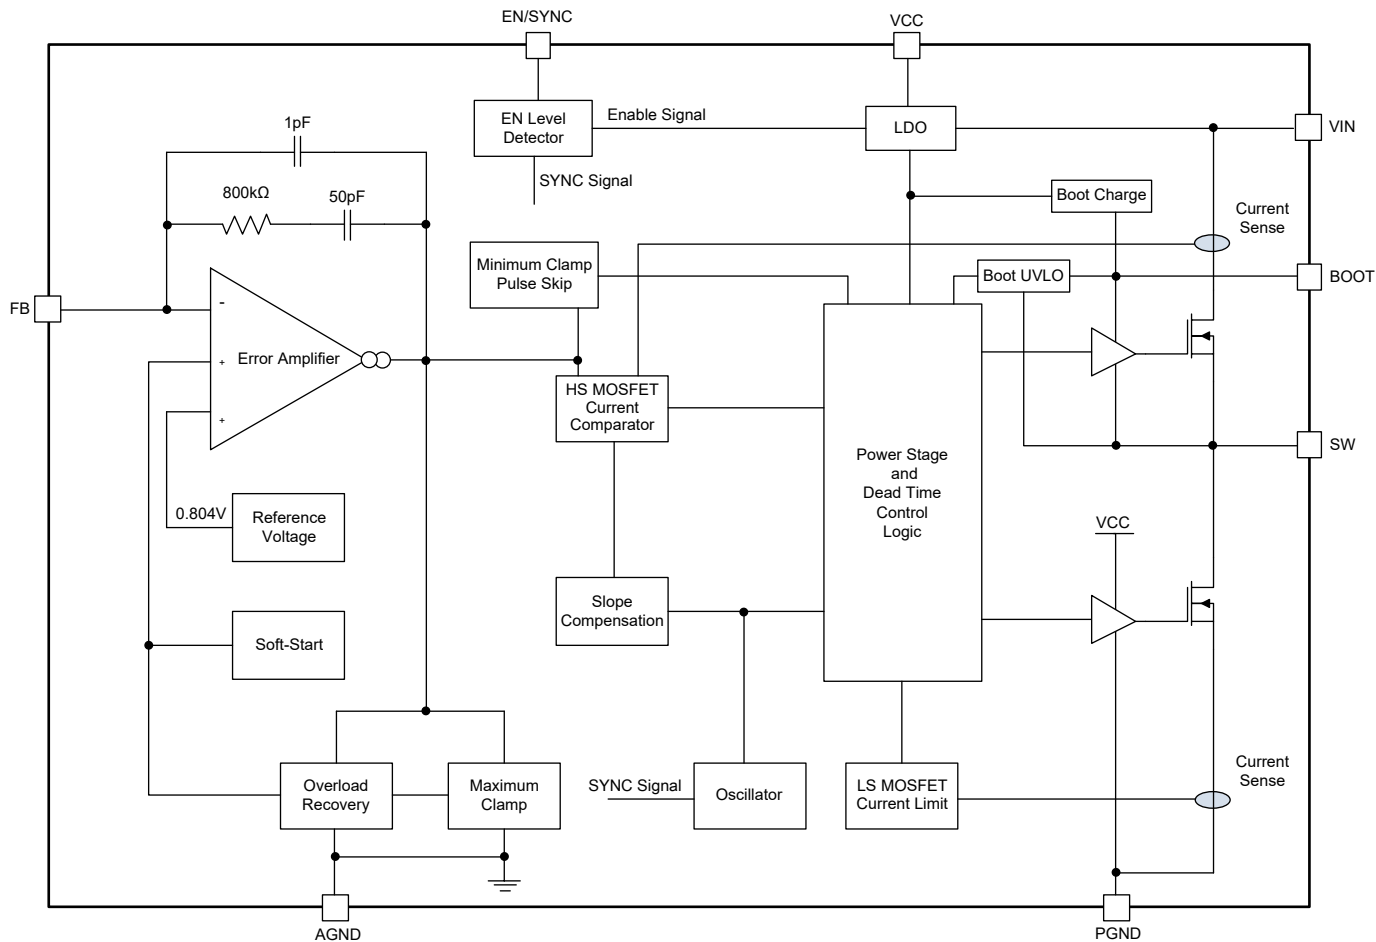
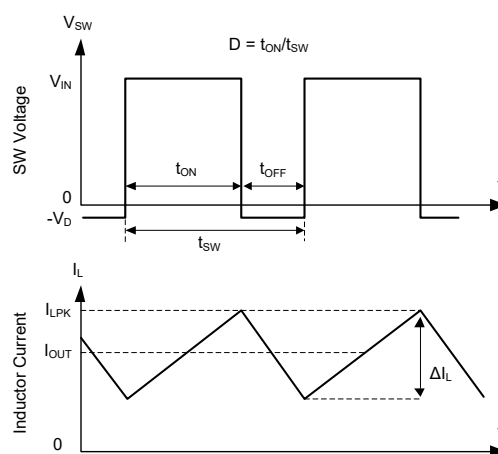
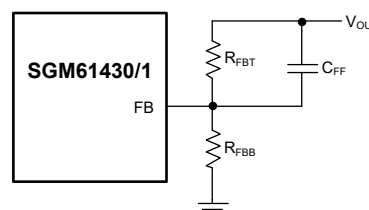

Figure 2. Block Diagram
Figure 3. Converter Switching Waveforms in CCM
Figure 8. Improving Loop Compensation by Feed-Forward Capacitor
The Functional Block Diagram and basic waveforms of these Buck synchronous converters are shown in Figure 2 and Figure 3. The N-MOSFETs are used for high-side (HS) and low-side (LS) (synchronous rectifier) switches. The HS duty cycle ($D = t_{ON}/t_{SW}$) is controlled in closed loop to regulate and maintain the output voltage at a constant level. The switching period is $t_{SW} = 1/f_{SW}$, and the HS on-time is t_{ON} . When HS is turned on, the SW node voltage sharply rises towards V_{IN} , and the inductor current (I_L) starts ramping up with $(V_{IN} - V_{OUT})/L$ slope. When HS is turned off, the LS is turned on after a very short dead time to avoid shoot-through, and I_L ramps down with $-V_{OUT}/L$ slope. When the inductor current is continuous (either due to sufficient load or FPWM), the output voltage is proportional to the input voltage and duty cycle ($V_{OUT} = D \times V_{IN}$) if component parasitics are ignored.
The SGM61430 and SGM61431 are internally compensated (see Figure 2) and are stable over the entire f_{SW} and V_{OUT} operating range. However, the phase margin can be low for some ranges of V_{OUT} when low ESR ceramic capacitors are used in the output. In such cases, it is recommended to use a feed-forward capacitor (C_{FF}) in parallel with the R_{FBB} to improve the transient response as shown in Figure 8.
The HS switch over-current protection is natural in peak current mode control. In each cycle the HS current sensing starts a short time (blanking time) after it is turned on. The slope compensation ramp is deducted from the EA (Error Amplifier) output to avoid sub harmonic oscillations and the result is compared to the HS current to determine the HS turn-off time (on-time). See Figure 2 for details. Before comparison, the EA output is clamped to a fixed maximum threshold (I_{HS_LIMIT}) to limit the current. So, the peak current limit of the high-side switch is not affected by the slope compensation and remains constant over the full duty cycle range.
An external resistor divider is used to set the output voltage as shown in Figure 8. Use Equation 12 to set V_{OUT}: